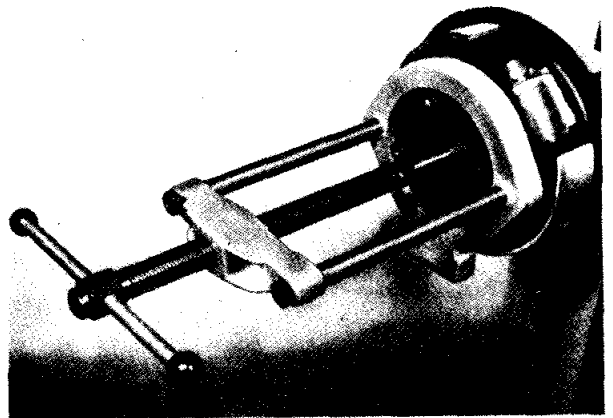
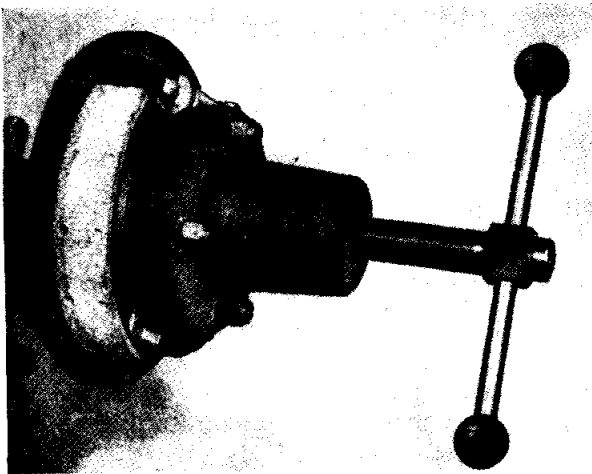

Fig. 3 Hub removal utilising the Churchill tool No. S 132/2.
Fig. 6 Hub removal utilising the Churchill tool No. M86.
- (e) Fit the Churchill hub removing tool No. M86 or S132/2 and withdraw the hub from the shaft (Figs. 3 and 6).
- (h) To remove the disc wheel hub, first remove the split pin at the axle end followed by the castellated nut, washer and splined taper collar. Remove the hub with the Churchill hub remover, Tool No. M86 (Fig. 6) or S132/2 (Fig. 3).